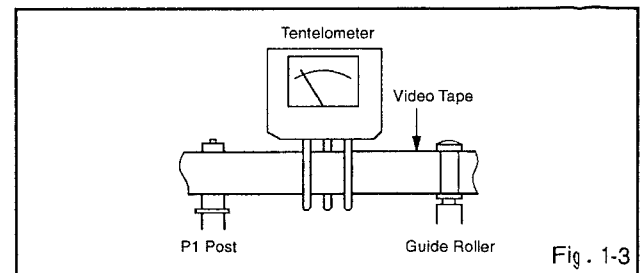

Fig. 1-3
- Install the tentelometer as shown in Fig. 1-3. Confirm that the meter indicates 20 ± 2gf in the beginning of playback.